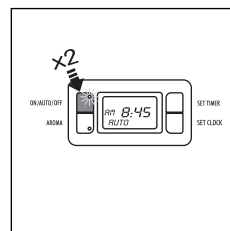

fig. 9
- preparing the appliance to make coffee. Press the "ON/AUTO/OFF" button (fig. 9) rapidly twice. The light on the button shows that the appliance is operating and AUTO appears on the display.